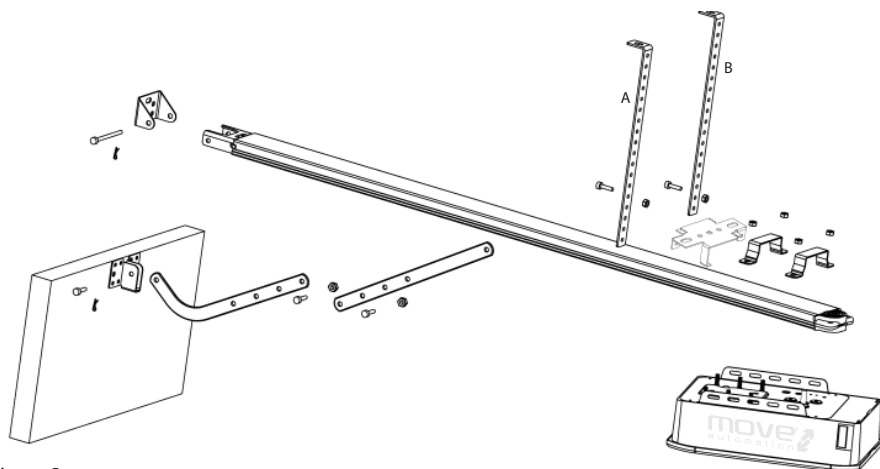
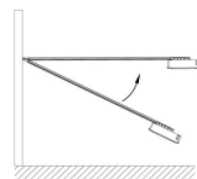
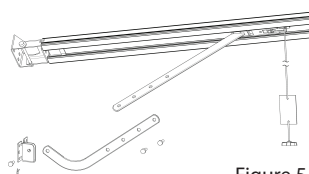

Figure 3
Figure 4
Figure 5
ÉTAPE 1 (Fig.3)
ÉTAPE 2 (Fig.3)
ÉTAPE 3 (Fig.3, Fig.4)
ÉTAPE (Fig.3, Fig.5)